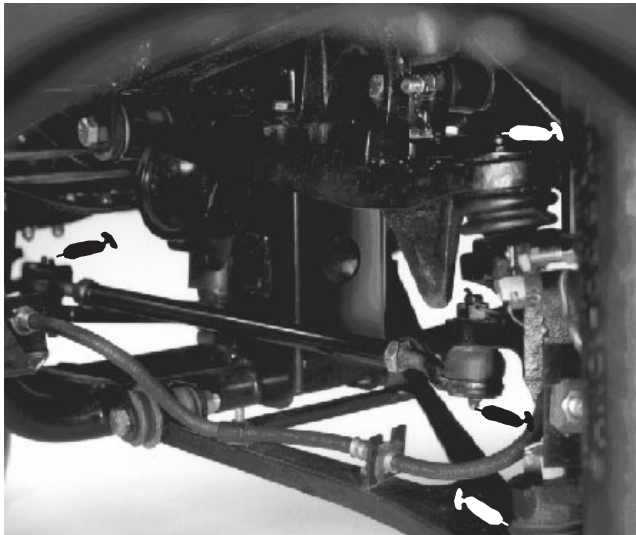
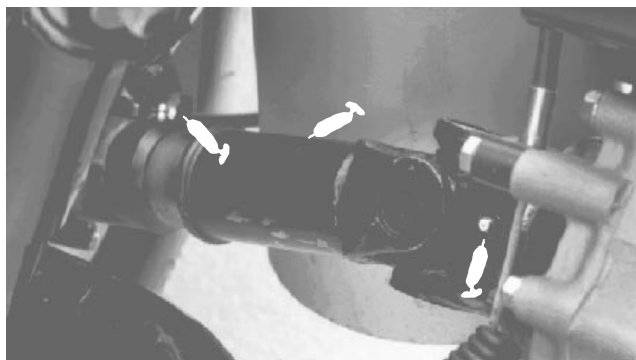

Figure 22
Figure 23
The grease fitting locations and quantities are: Tie rod ends (4) (Fig. 22), Front ball joints (4) (Fig. 22), Rear drive shafts (18) (Fig. 23), Pedal Pivots (4) (Fig. 24); Steering shaft (1) (Fig. 25) and Front pivot bushings (2) (Fig. 26).